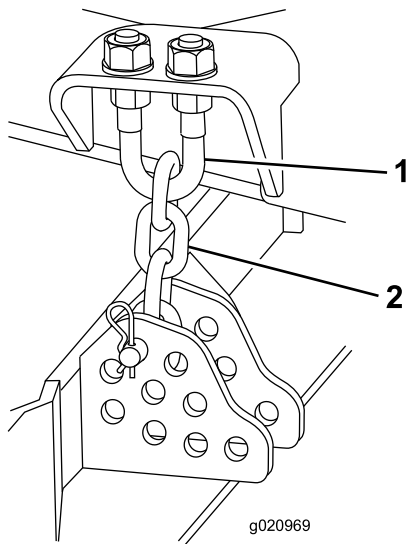

Figure 104
3. Remove the hairpin cotter and clevis pin securing the height-of-cut chains to the rear of the cutting unit (Figure 104).